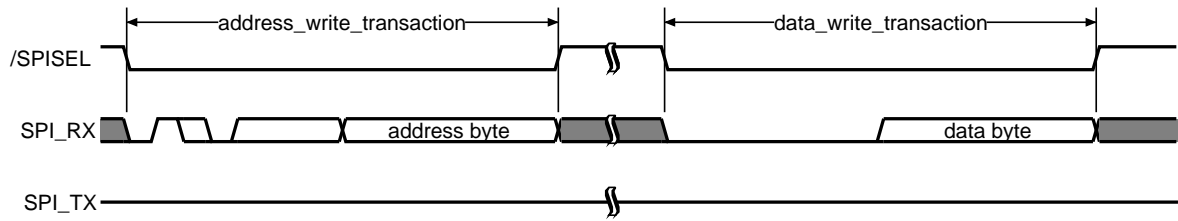

Figure 2.14: Register write access (transaction sequence)
1. A register write access is a sequence of two SPI write transactions as shown in Figure 2.14. With the first transaction the SPI master specifies the register address (control byte is '01X0CCCC'). Afterwards, the new register value is transferred from the SPI master to XHFC-2S4U/4SU (control byte is '0000 0000').
Figures 2.14 to 2.16 show $/\text{SPISEL} = '1'$ between the transactions. This splits the sequence into an address write transaction and one or several data write transactions. The split time has an arbitrary duration. It can also decrease to zero, which means that $/\text{SPISEL}$ remains '0' for several transactions.